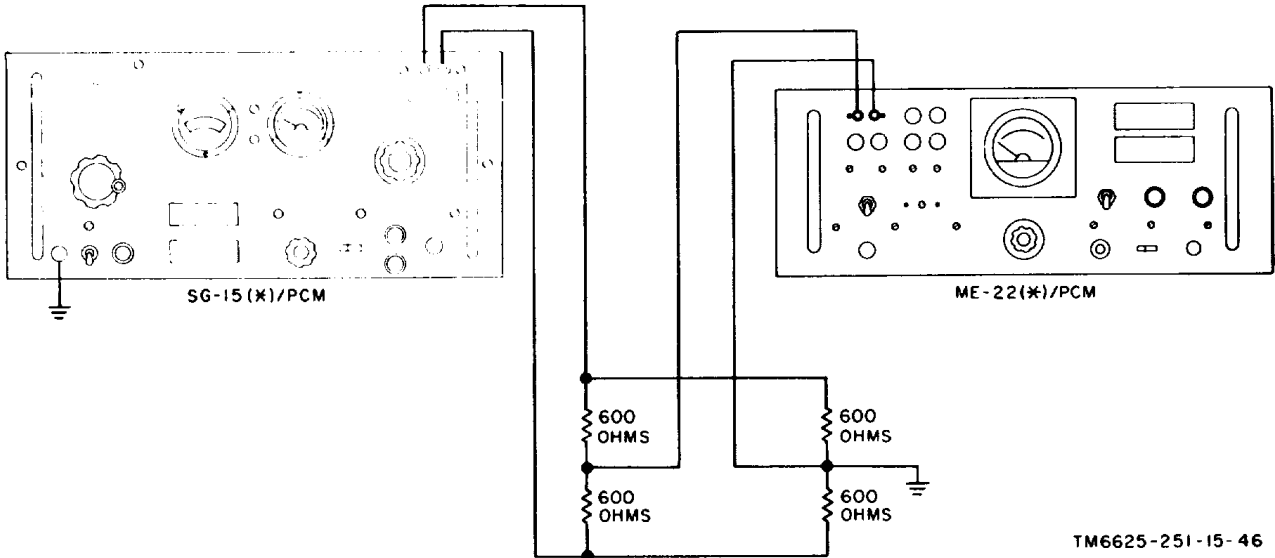

Figure 8-8. Longitudinal input test of ME-22(*)/PCM, test setup.
- (1) Signal Generator SG-15(*)/PCM.
- (2) Four 600-ohm resistors.
- b. *Test Connections and Conditions.* Connect the equipment as shown in figure 8-8. Remove Decibel Meter ME-22(*)/ PCM from its case.
Longitudinal input-----	Using the test setup in figure 8-8, the response to longitudinal input power will be down at least 50 db at frequencies of 200, 1,000, 10,000, and 35,000 cps when the signal generator is adjusted for a +20-dbm output.